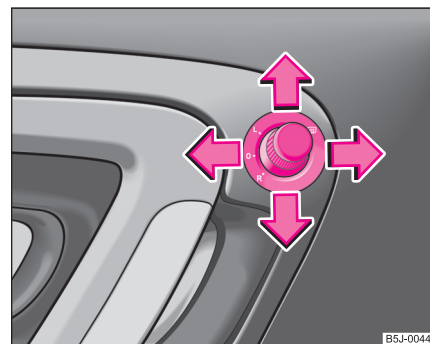

Fig. 48 Inner part of door: Rotary knob
- Turn the rotary knob to position  ⇒ fig. 48.